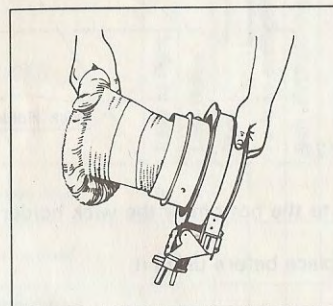

Fig. 23
- (8) Remove the wick from the wick holder (Fig. 23).